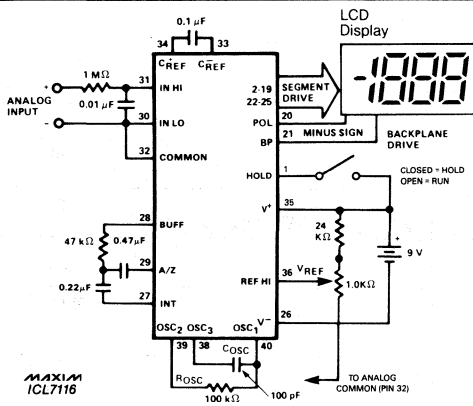

Figure 1. Maxim ICL7116 Typical Operating Circuit, 200mV Reference
**Note 3:** Unless otherwise noted, specifications apply to both the 7116 and 7117 at TA = 25°C, fclock = 48kHz. 7116 is tested in the circuit of Figure 1. 7117 is tested in the circuit of Figure 2.
( $V^+ = 9V$ ;  $T_A = 25^\circ C$ ,  $f_{CLOCK} = 48kHz$ ; test circuit - Figure 1 (ICL7116), Figure 2 (ICL7117) unless noted)
**Note 7:** Test condition is  $V_{IN}$  applied between pins IN-HI and IN-LO. i.e., 1M $\Omega$  resistor in Figures 1 and 2.
**Note 11:** 1M $\Omega$  resistor is removed in Figures 1 and 2.
The Hold input is a digital input with a logic threshold approximately midway between V+ and Test (ICL7116) or V+ and Ground (ICL7117) and the Hold input will be pulled low if it is left open. When Hold is low the ICL7116/ICL7117 updates the display at the end of each conversion. The Hold input is CMOS compatible, and can also be driven by a switch connected to V+ (Figure 1 and 2) or by a PNP transistor.
however, the display latch pulse is inhibited, and the the display latches are not updated. The Hold input has a 70 kilohm pulldown resistor to Test (ICL7116) or Ground (ICL7117) and the Hold input will be pulled low if it is left open. When Hold is low the ICL7116/ICL7117 updates the display at the end of each conversion. The Hold input is CMOS compatible, and can also be driven by a switch connected to V+ (Figure 1 and 2) or by a PNP transistor.